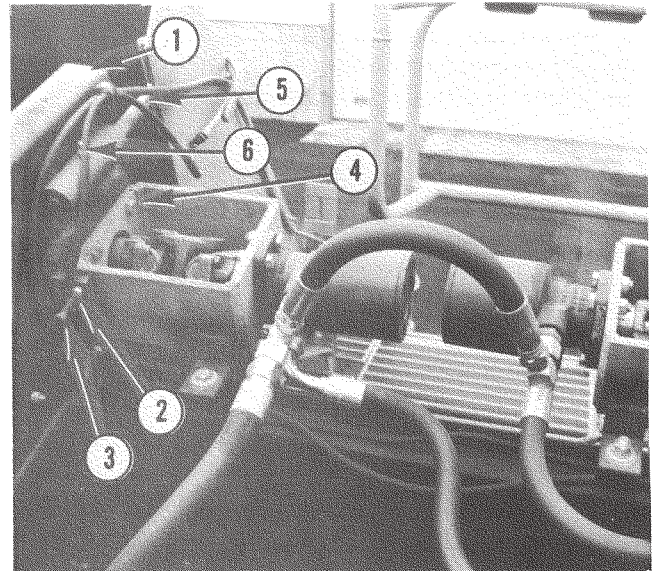

Figure 23. Conveyor Head Pulley Adjustment
2. Should it be impossible to obtain centered belt operation by adjusting the tail pulley (Fig. 22) it will then be necessary to adjust the head pulley as outlined below. (Fig. 23)